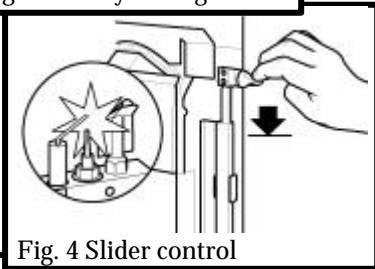

Fig. 4 Slider control
3.1.2 Depress the slider as far as it will go (see figure 4). This should close the ignition circuit.